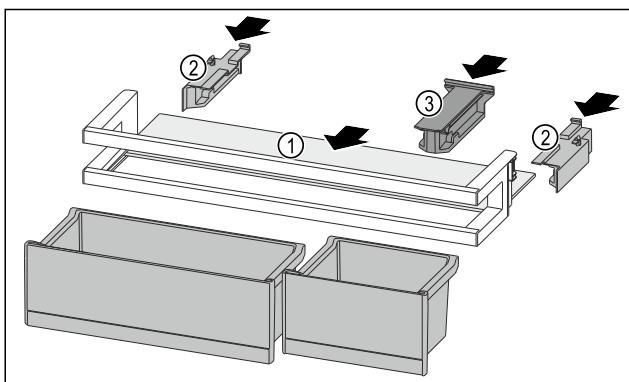

Fig. 147
- ▶ Push the shelf Fig. 147 (1) into the side recesses.
- ▶ Insert the side parts Fig. 147 (2).
- ▶ Insert the holding part Fig. 147 (3).